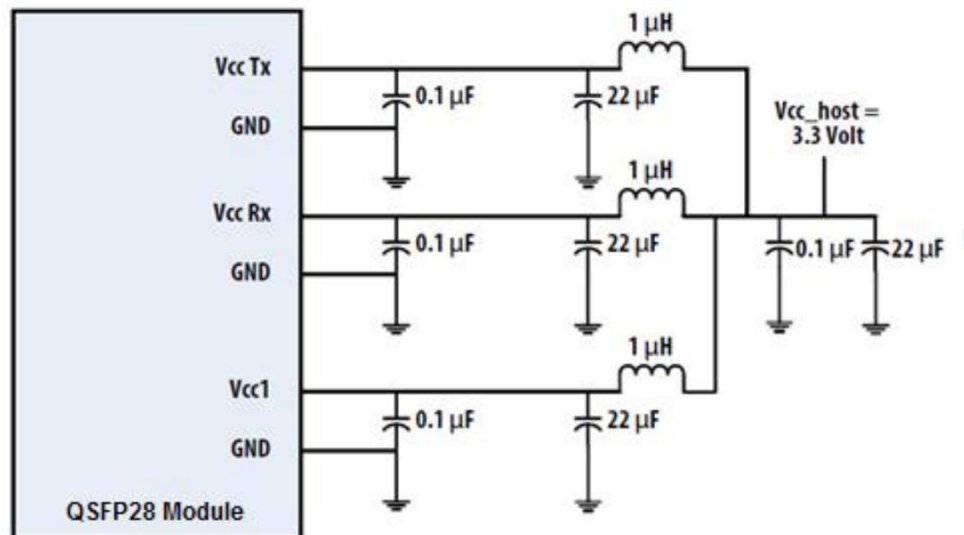

Figure 3. Recommended Power Supply Filter
2. VccRx, VccI and VccTx are the receiving and transmission power suppliers and shall be applied concurrently. Recommended host board power supply filtering is shown in Figure 3 below. Vcc Rx, Vcc I and Vcc Tx may be internally connected within the module in any combination. The connector pins are each rated for a maximum current of 1000mA.